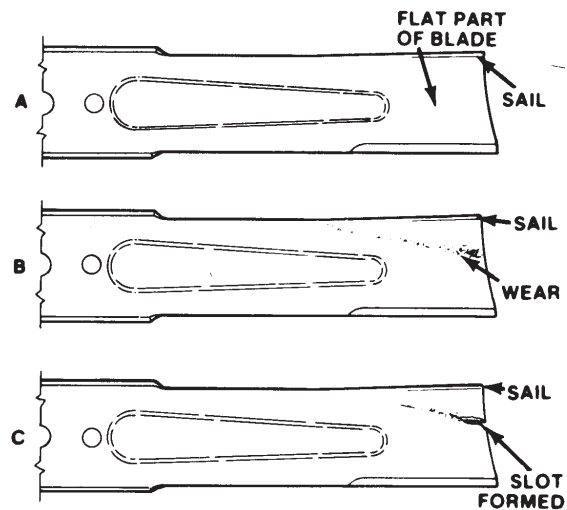

Figure 38
2. Examine cutting ends of the blade carefully, especially where the flat and curved parts of the blade meet (Fig. 38-A). Since sand and abrasive material can wear away the metal that connects the flat and curved parts of the blade, check the blade before using the machine. If wear is noticed (Fig. 38-B), replace the blade: refer to Removing Cutter Blade.
**If blade is allowed to wear, a slot will form between the sail and flat part of the blade (Fig. 38-C). Eventually a piece of the blade may break off and be thrown from under the housing, possibly resulting in serious injury to yourself or bystander.**